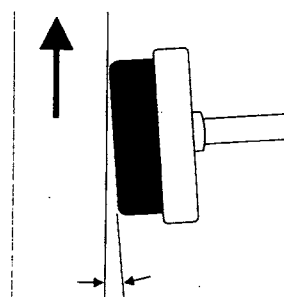

Fig. 16 - Brake shoe toe-in (.5-1.5mm)
4. Shoe Toe-In - Brakes squeal due to loose pivots, flex in the brake arms or bike frame, surface contamination, etc. These factors can cause the brake shoe to vibrate on the surface of the rim, creating the squeal. In cases like this, toe-in is necessary to eliminate, or at least reduce, the problem. Shoes should be toed in so the leading edge of the shoe makes contact with the rim before the trailing edge. This can be checked by softly squeezing the brake arms inward until the leading edge barely makes contact. The trailing edge should have a gap of .5 to 1.5 millimeters (see figure 16). Too much toe-in will reduce the amount of shoe surface making contact with the rim, thus reducing braking power.
Most bicycles use brake cable that is 1.6 mm in diameter. The housing for 1.6 mm brake cable is 5 mm in diameter. Brake cable housing is flat wound (see figure 16 on page 5-18) and available both lined and unlined. Lined, flat wound housing is preferred due to its stiffness and smoothness.